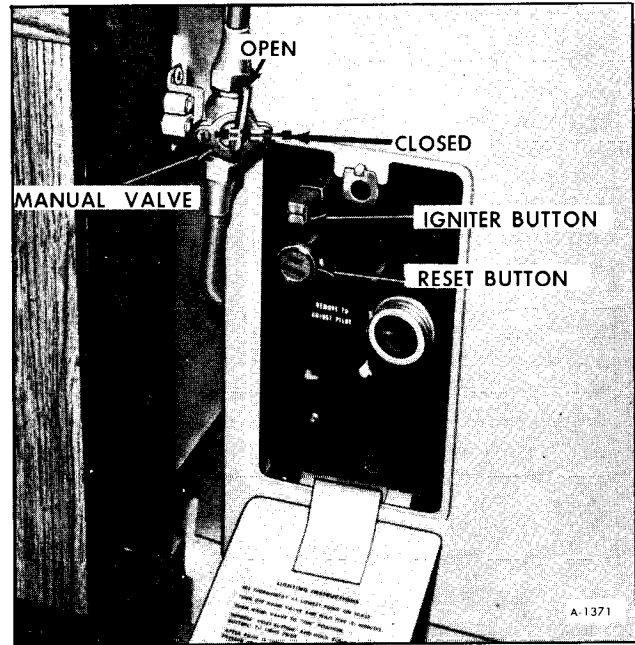

Figure 5—Manual Valve, Reset and Ignitor Buttons
1. To light the furnace, turn the manual valve (See figure 5) to the "off" position and wait 5 minutes. Set the thermostat at its lowest setting. Open manual valve. Correct operating characteristics depend on this valve being positioned fully open. Never attempt to operate with valve partially closed.
3. Press reset button and hold. Depress the impact ignitor button (See figure 5). On the initial lighting the pilot may not light immediately due to air in the gas line. If such is the case it may be necessary to hold the reset button in for a minute or more before the pilot lights. When the pilot is burning, continue to hold the reset button in for approximately 30 seconds or until the pilot continues to burn when the reset button is released.